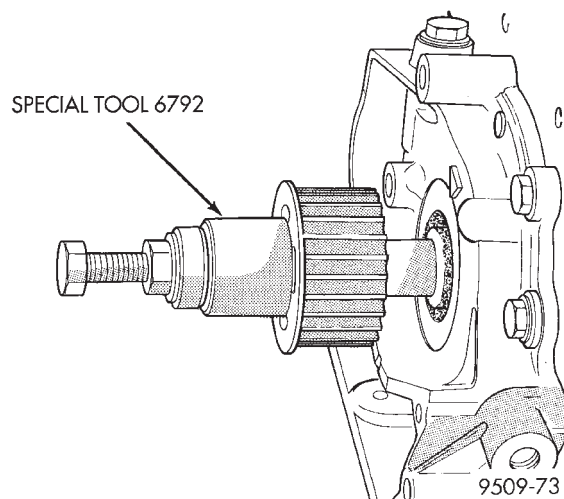

Fig. 57 Crankshaft Sprocket—Installation
(3) Install crankshaft sprocket (Fig. 57). Using Special Tool 6792.